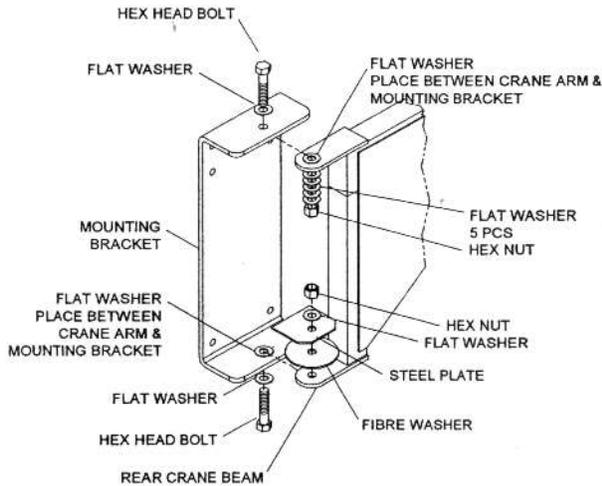

Figure 8
- After selection of the support structure, a decision on how the main support bracket of the crane arm should be installed. The mounting bracket must be installed perfectly vertical to prevent drifting of the crane arm. Depending upon installation equipment, it may be determined that the bracket should be removed from the crane arm and installed to ensure the vertical accuracy of the bracket. Bracket can then be attached back onto the crane arm. All hardware must be reinstalled exactly as original. {See figure 8}. Tighten hardware sufficiently enough so crane arm swings firmly yet freely.